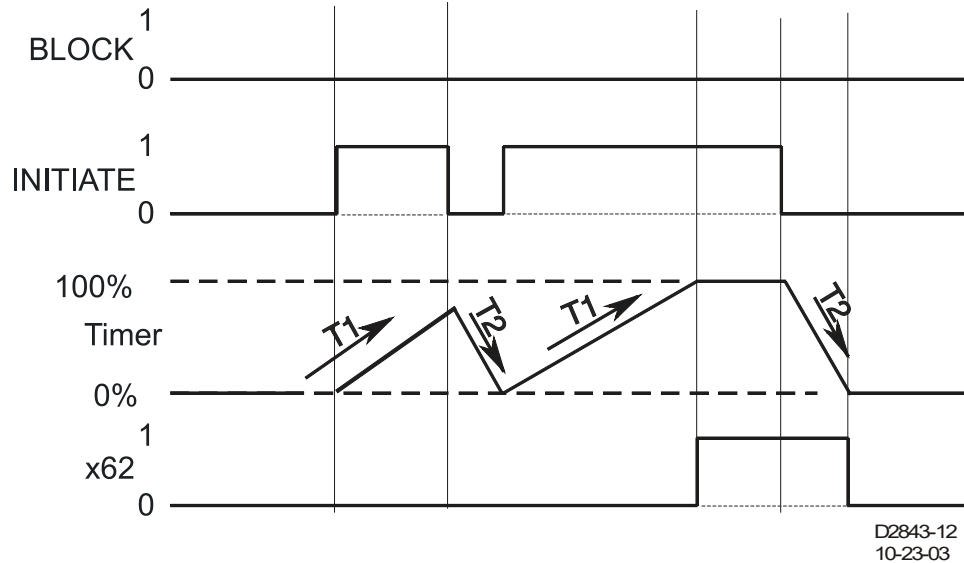

Figure 13-4. Mode 5 (Integrating Timer) Timing Example
Step 3: Use the RS-LGC command to obtain an SER report and verify that the following actions were logged. These events are illustrated in the timing diagram of Figure 13-4.